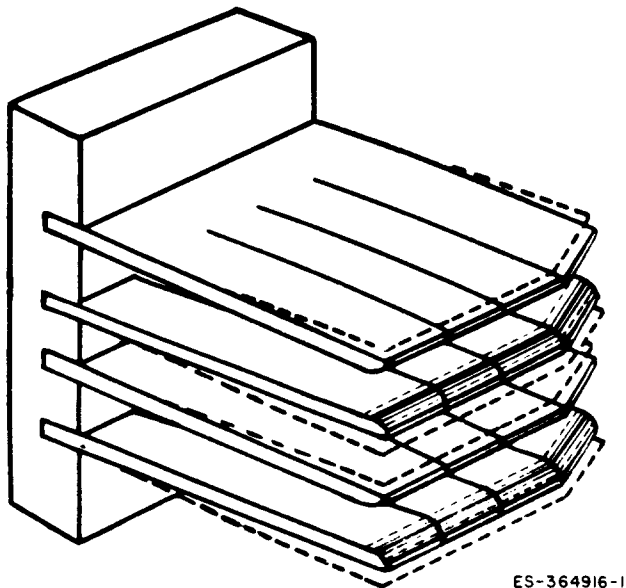

Fig. 1—Covering of Contact Clips
- (b) All clips shall be straight and converging; that is, slightly closer together at the rounded edge where the blade enters as shown in Fig. 1.